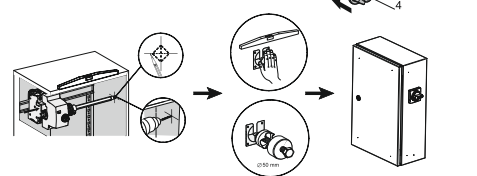

Рисунок 10 – Функция UNLOCK / Figure 10 – UNLOCK function
– UNLOCK. The UNLOCK function allows for an emergency release of the rotary handle from the metal rod. This function is used in case of emergency when the rotary handle of the modular device is locked (when the contact group of the modular device is blocked). The emergency release function is performed by means of the UNLOCK button located on the side of the rotary handle, as shown in figure 10. The UNLOCK function operates as follows: when the UNLOCK button is pressed with a thin elongated object (e.g. a paper clip), as shown in figure 10, the rotary handle must be released from the metal rod, thus allowing the distribution cabinet door to be opened;